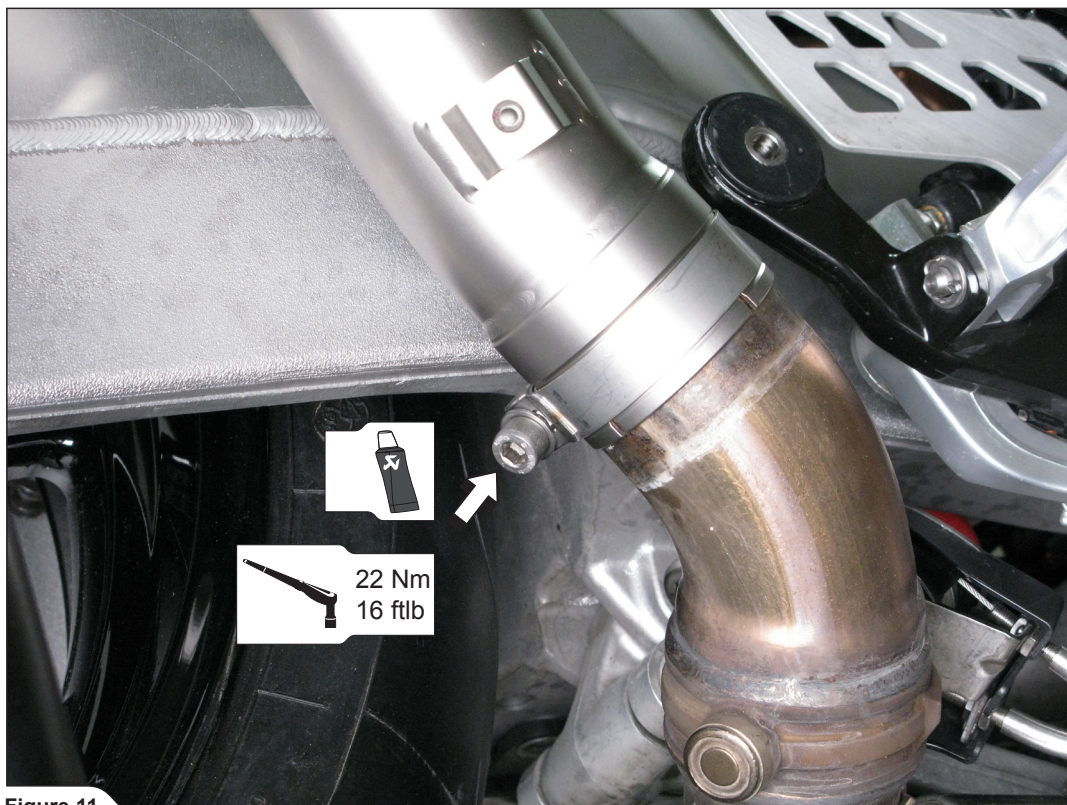

Figure 11
8. For High Slip-On only: tighten the metal clamp to a specified torque (Figure 11).